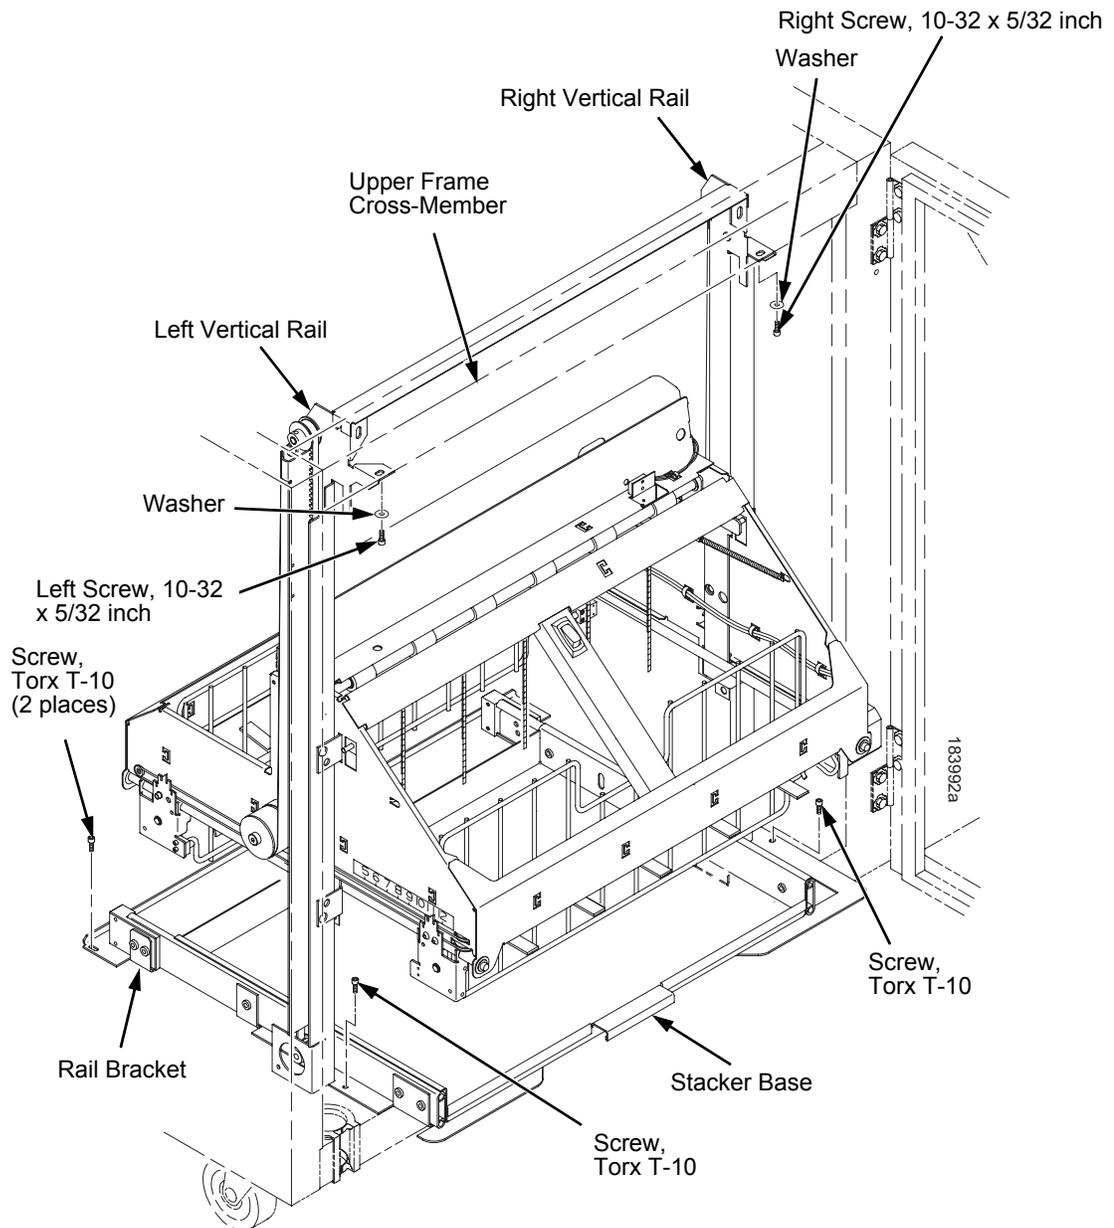

Figure 19. Stacker Fasteners
15. Align the holes in the vertical rail brackets with the holes in the upper frame cross-member. (Figure 18c and Figure 19.)
16. Align the holes in the stacker base with the holes in the cabinet floor. (Figure 18c and Figure 19)
17. Install finger tight the 10-32 x 5/32 inch buttonhead screw and washer securing the left vertical rail to the upper frame cross-member. (Do not install the right hand screw yet.) (Figure 19.)
18. Install and tighten the two Torx T-10 screws securing the stacker base to the cabinet floor. (Figure 19.)
19. Install and tighten the two Torx T-10 screws that secure the rail bracket to the cabinet floor. (Figure 19.)
26. Install finger tight the 10-32 x 5/32 inch buttonhead screw and washer securing the right vertical rail to the upper frame cross-member. (Figure 19.)